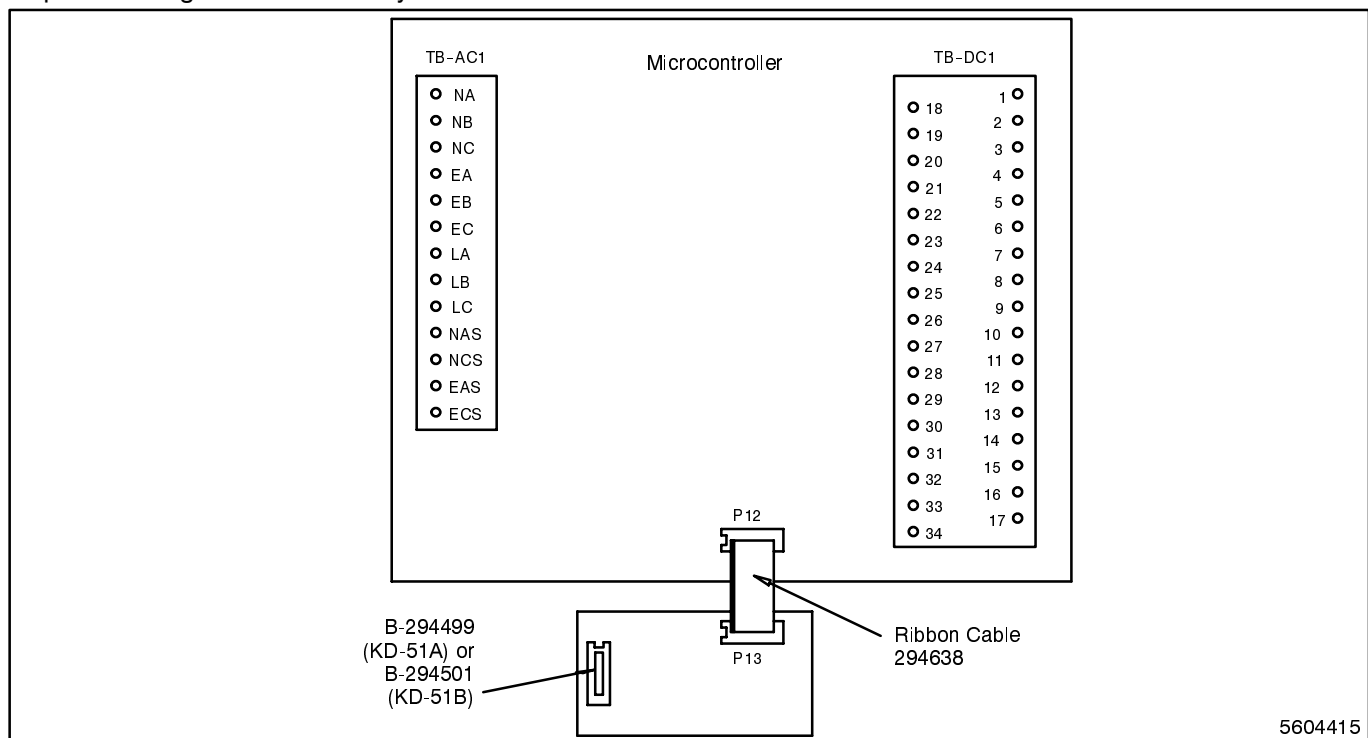
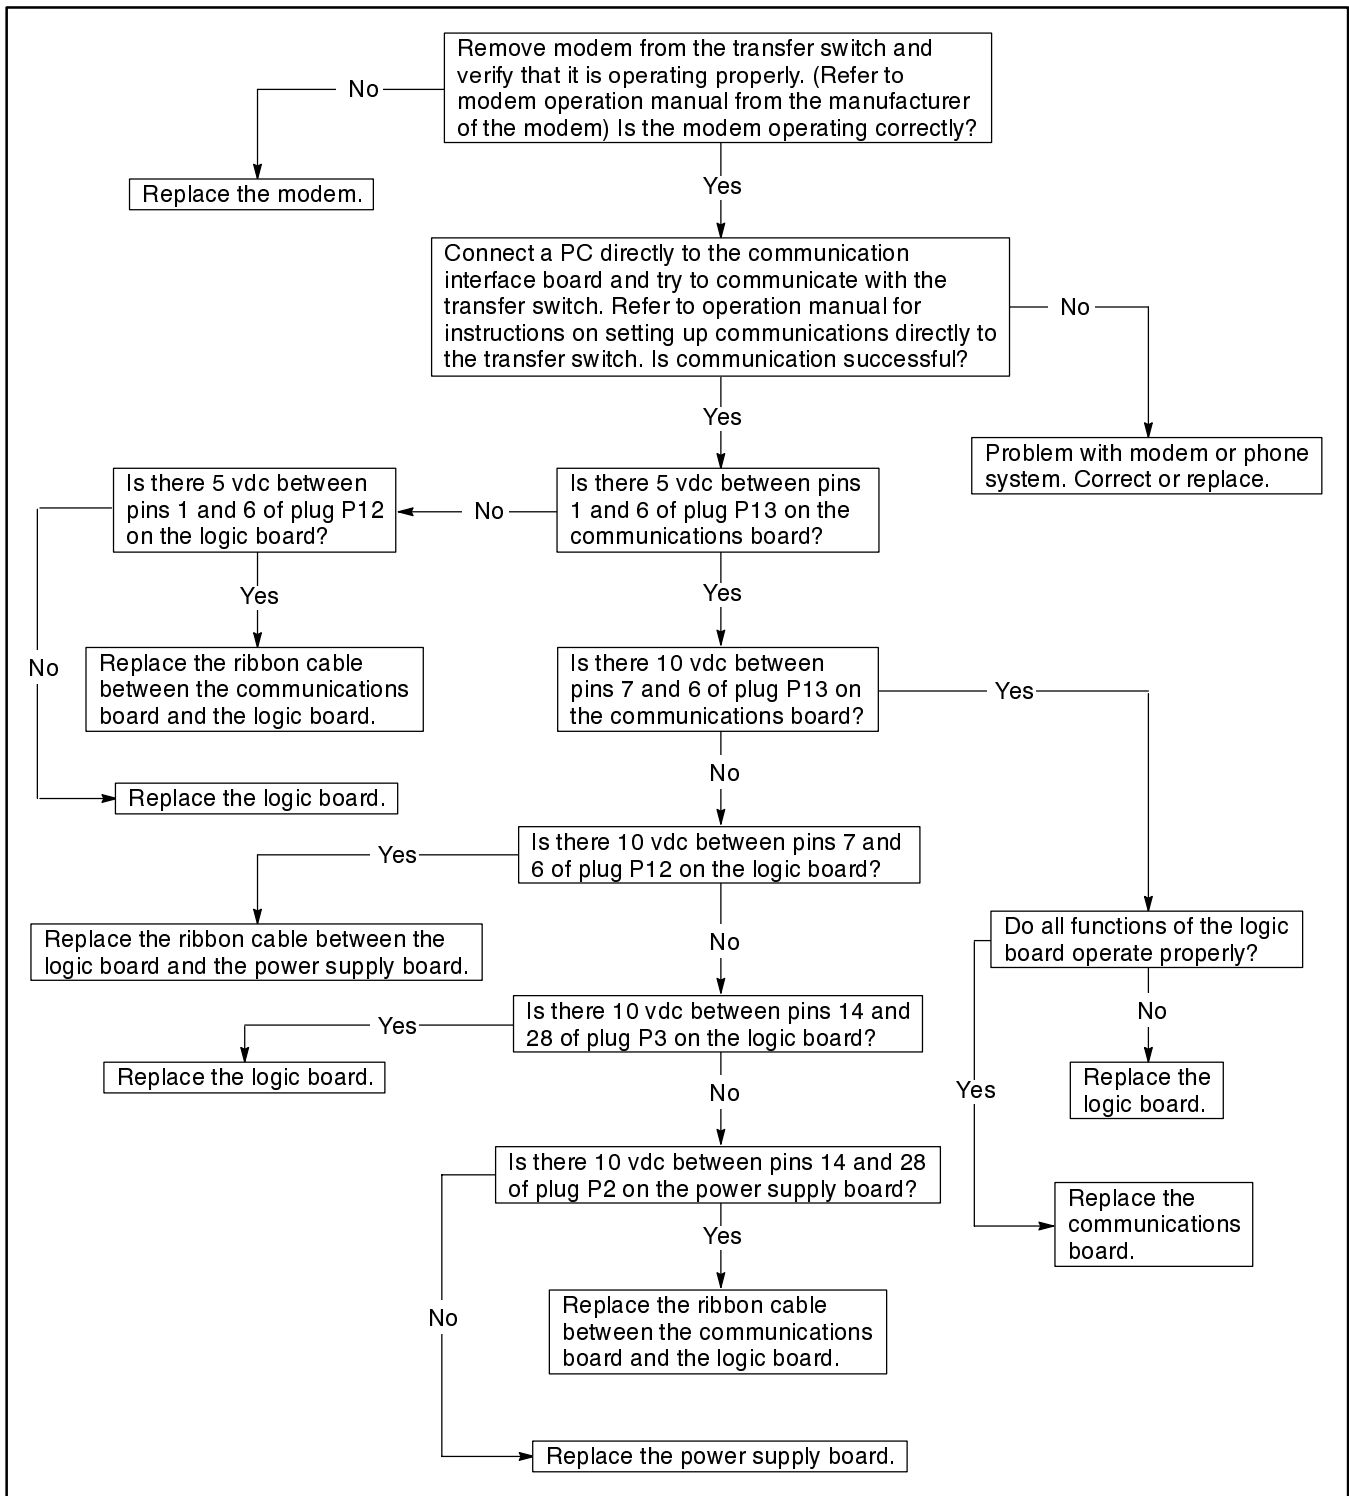

Figure 5-78. Wiring Diagram—Option KD-51-A and KD-51-B, Remote communications board
Figure 5-79. Troubleshooting—Option KD-51-A and KD-51-B, Remote communication is not functioning properly
1. Check the voltage at P13-1 on the Remote Communication board. See Figure 5-78. Using a voltmeter, connect the positive test lead to P13-1 on the Remote Communication board. Connect the negative test lead to P13-6. The voltmeter should read five volts DC.
Accessory KD-51 allows connection to an IBM-compatible personal computer for remote transfer switch monitoring. See Figure 5-78 for a wiring diagram for this accessory and Figure 5-79 for the troubleshooting flowchart.